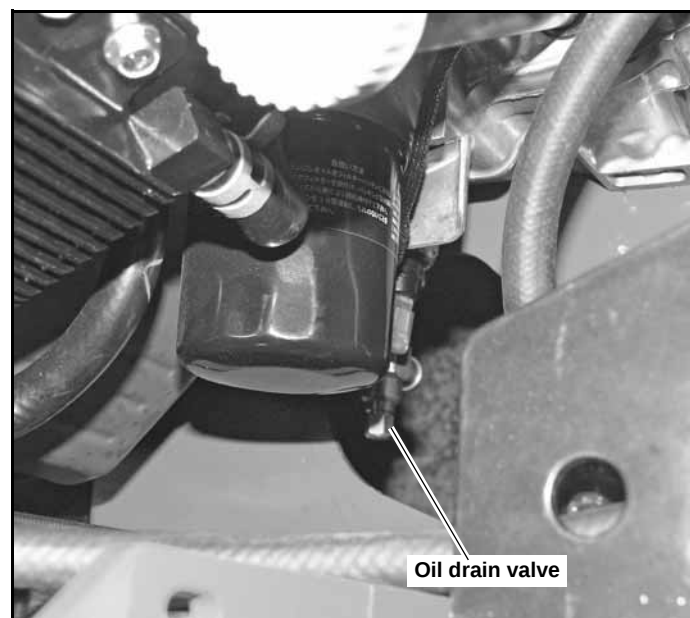

Figure 4-4
C. Draining the engine oil (units equipped with oil drain valve as shown in Figure 4-4).
1. Locate the oil drain valve on the engine. Figure 4-4